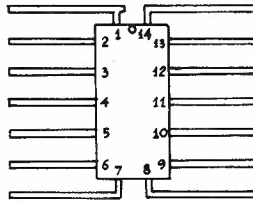

FIG. 47. LEAD ARRANGEMENT: FLAT PACK PACKAGE (TOP VIEW).
- FLAT PACK. Fig. 47 illustrates the method of numbering leads on a flat pack package. A mark on the case is often placed adjacent to lead 1 or between the first and last leads. The leads number in an anticlockwise direction when viewed from the top.